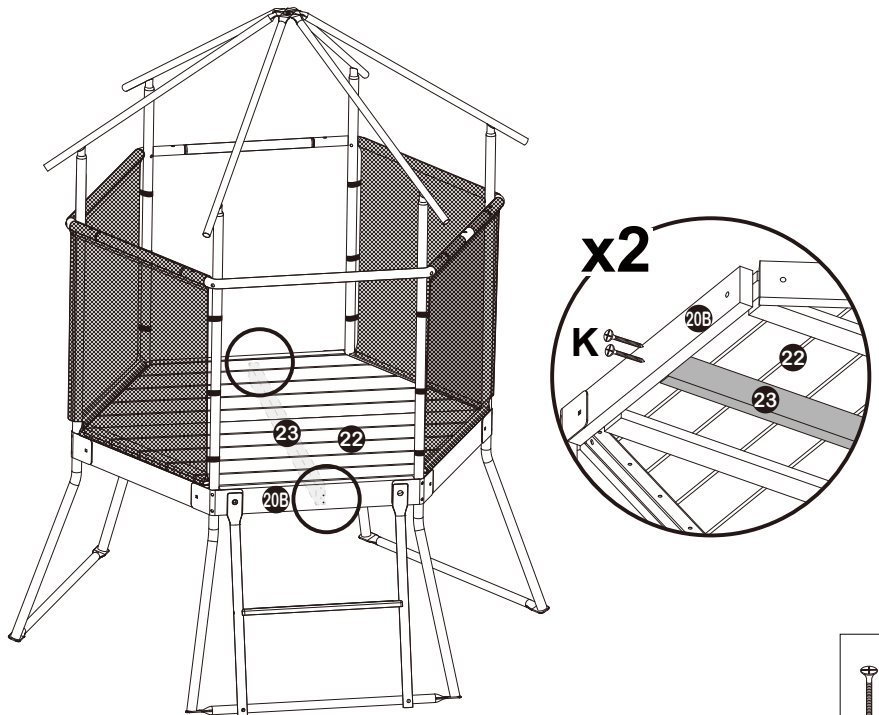

FIGURE 14
- Attach Bottom Support Wood (23) to Connection Wood (20B) as shown in Figure 14.